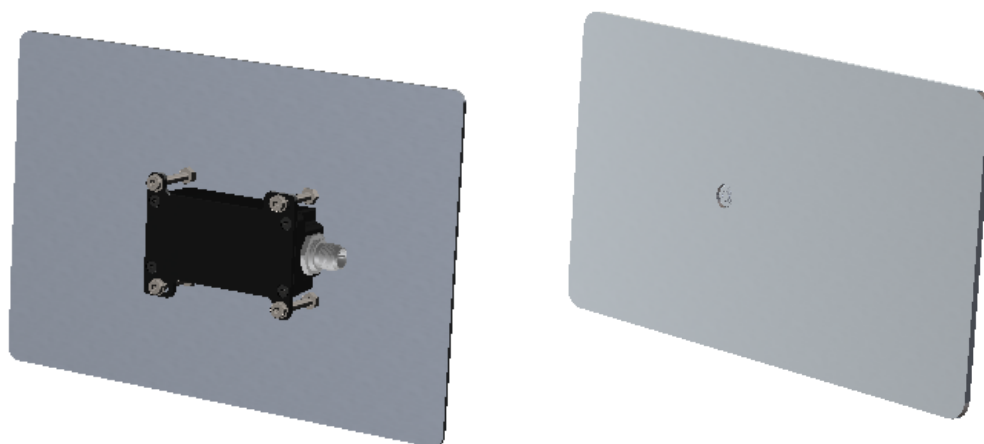

Figure 5. Back-panel mounting example: back (left) and front (right) isometric views
2. Back-panel mount using the 2mm ledge on the front side of the camera (Figure 5)